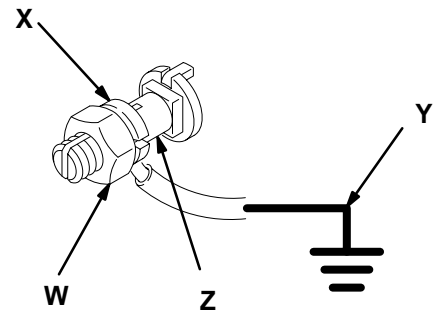

Fig 1
1. *Pump:* use a ground wire and clamp as shown in Fig 1.
To ground the pump, loosen the grounding lug locknut (W) and washer (X). Insert one end of a 1.5 mm² (12 ga) minimum ground wire (Y) into the slot in lug (Z) and tighten the locknut securely. See Fig 1. Refer to page 19 to order a ground wire and clamp. Connect the other end of the ground wire to a true earth ground.